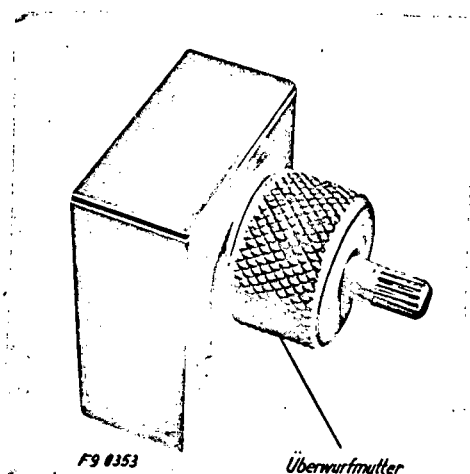

Fig. 3. 1) Screw cap.
1. Unscrew screw cap (Fig. 3).